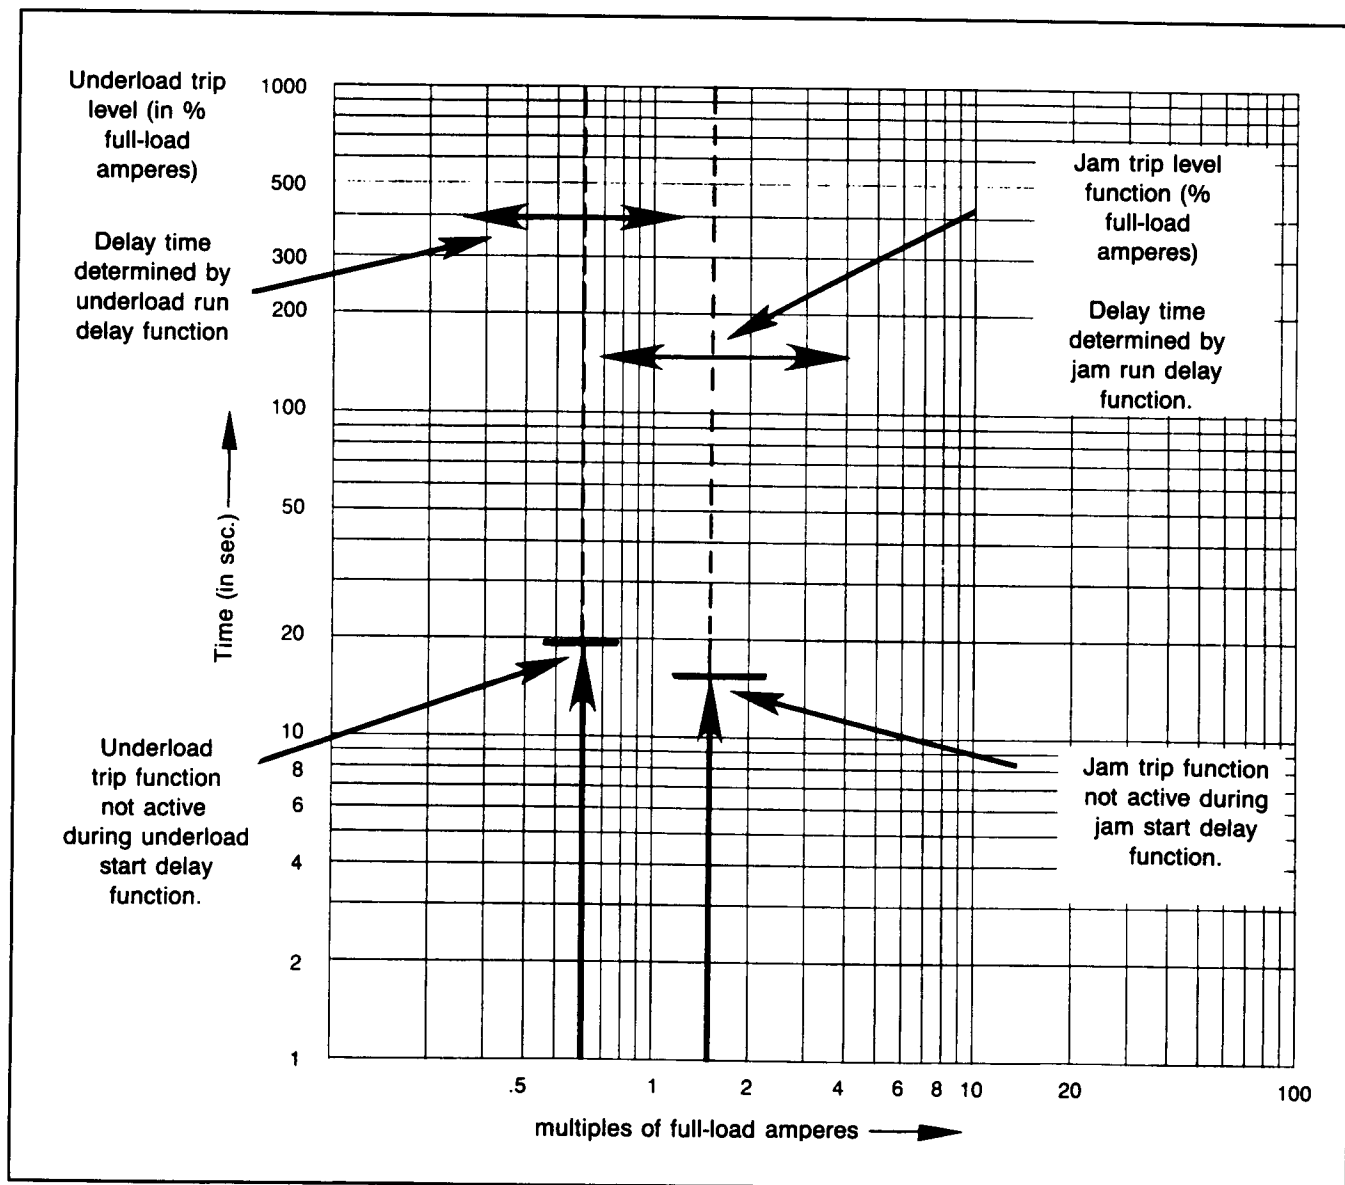

Figure 7.3 — Jam Protection Curve
**7.1.3.5 Jam Functions** — Once the motor is running, if the monitored current level exceeds the set point entered for the jam trip level (item 23), a trip occurs. (See Figure 7.3 in which the jam trip set point is 180% of full-load current.) An alarm level can also be programmed for jam (item 22).